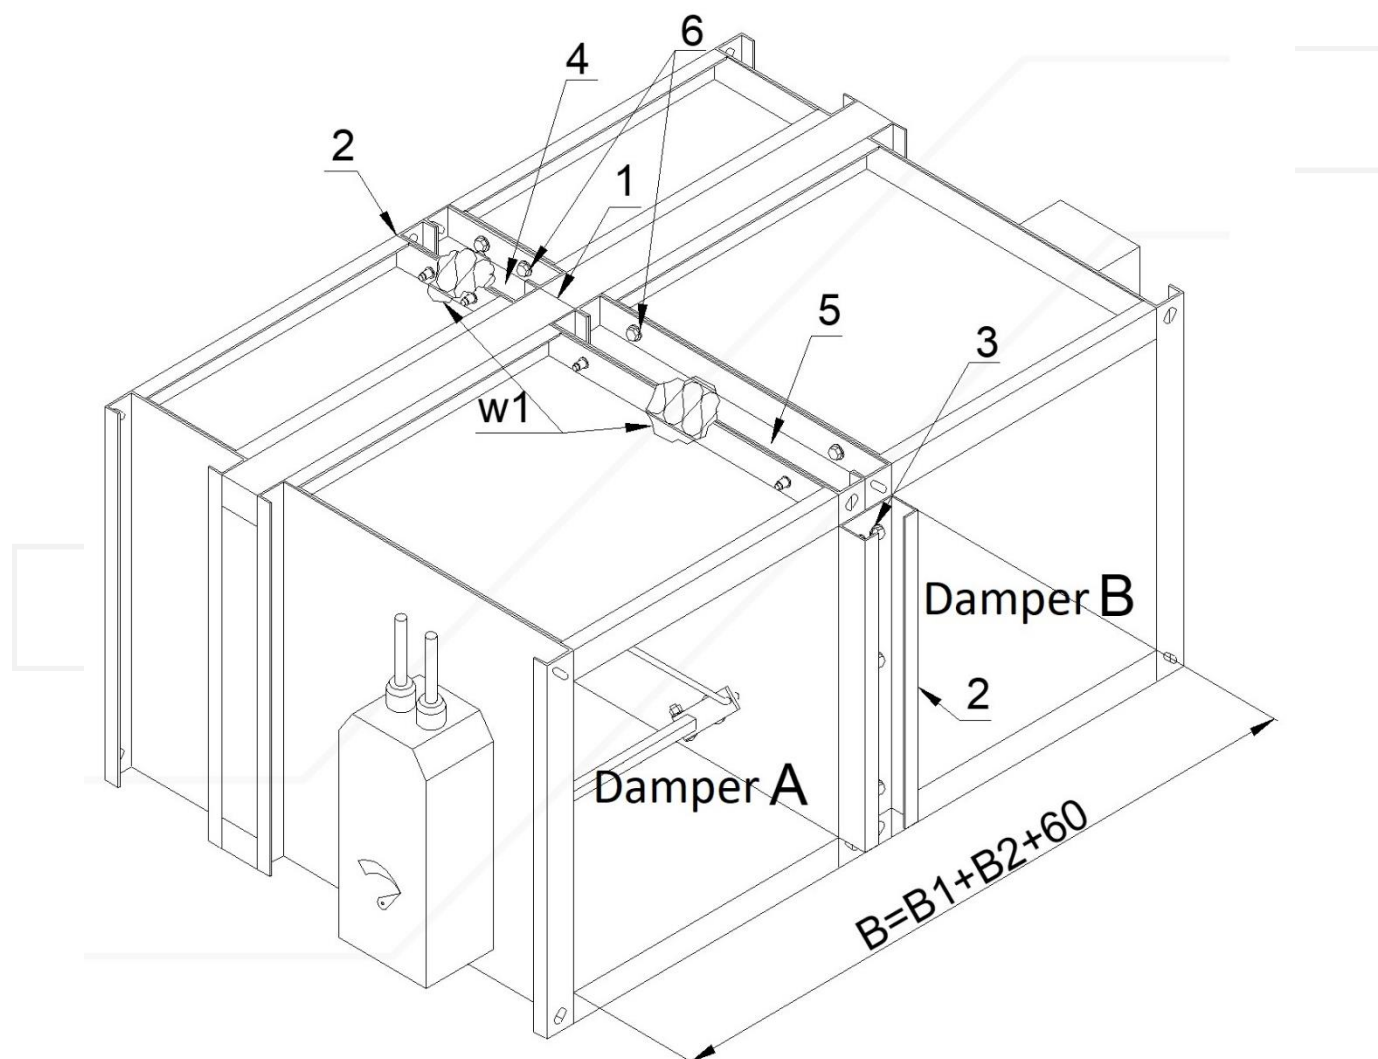

Figure 11. Arrangement 3 – horizontal battery consisting of two fire dampers KWP
**Arrangement 1** – vertical battery consisting of two fire dampers KWP (Figure 11)
- a. Fix the gasket on insulating spacer of one of adjoining fire dampers (position (1) in the Figure 11).
- c. Place the fire damper A on the fire damper B and assemble them together on the front and back with use of perforated assembly strips (2) and self-tapping screws M6x16 (3), which should be tightened into the openings in fire damper body. In order to carry out the correct assembly, 4 self-tapping screws should be used per each assembly strip with length of 1200 [mm].